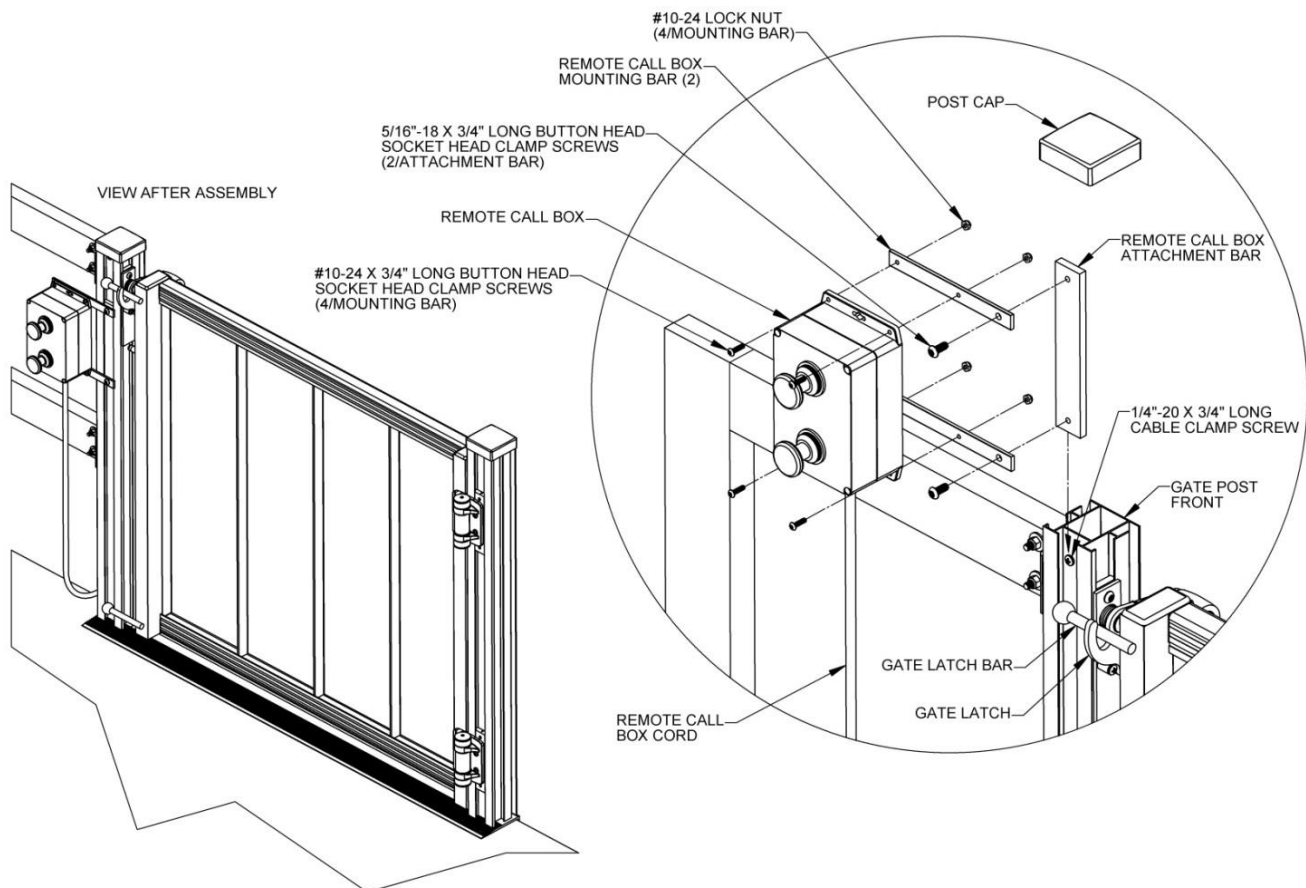

FIG. 13.2
2. Assemble the two mounting bars to the Call/Send Control using four #10-24 x 3/4" long button head socket cap screws and nylon locking nuts as shown in FIG. 13.2. Assemble the bars in such a manner that the larger hole is on the gate side when mounted to the same post which contains the latching mechanism.